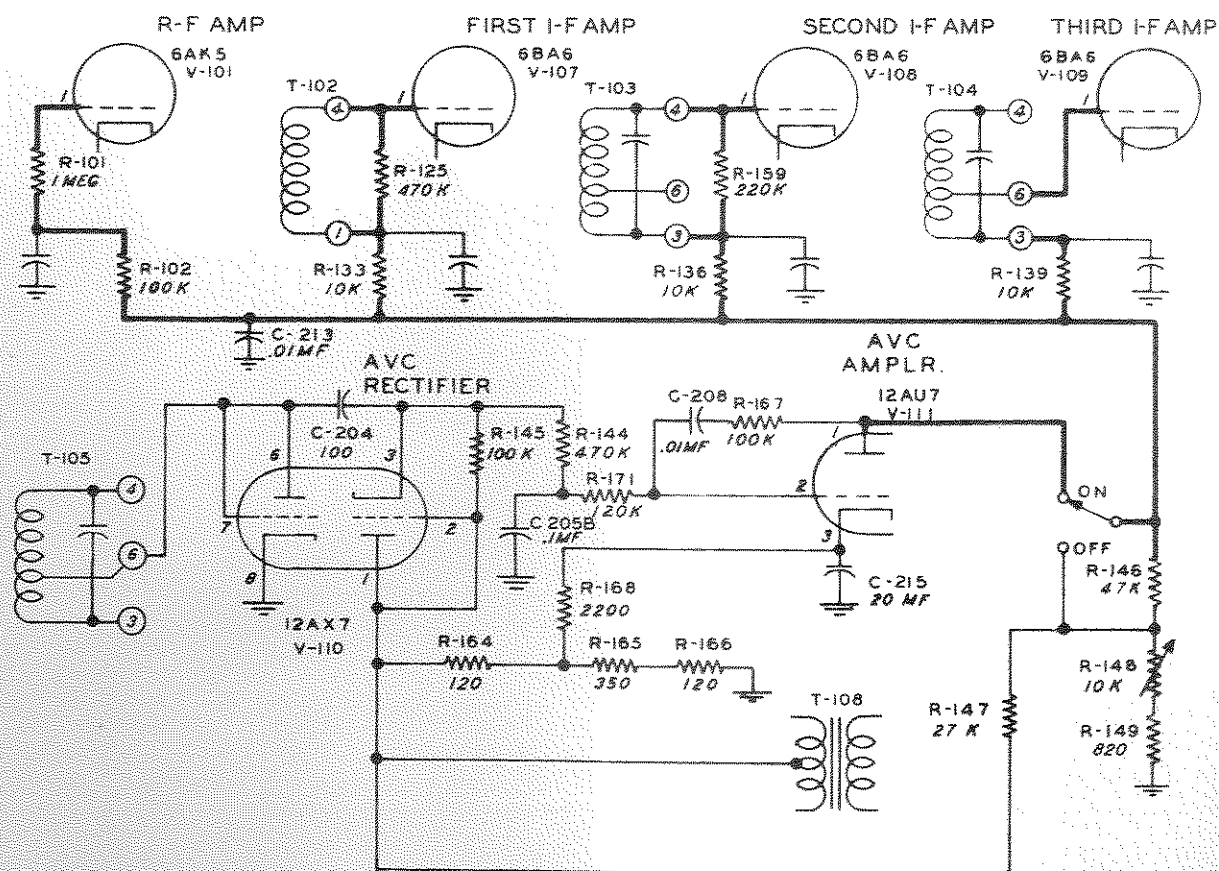

Figure 4-5. 51J-3 A. V. C. Circuit
4.2.11. AUTOMATIC VOLUME CONTROL. - The problem of blocking that is created by strong signals or heavy static is eliminated by use of an amplified AVC system and a low impedance AVC line. Refer to figure 4-5. The second triode section of V110 is used as an AVC rectifier to produce control voltage for the AVC amplifier which uses one half of dual triode V111. The AVC voltage that is applied to grids of the controlled tubes is produced when plate current flowing through one-half of AVC amplifier tube V111 causes a voltage drop across resistor R146. Plate voltage for the amplifier half of V111 is obtained from the voltage drop across resistors R164, R165 and R166, which are in series with the center tap of the power transformer to ground. However, V111 will not draw plate current when there is no signal input to the receiver because of approximately 11 volts of bias that is placed upon its grid by the voltage drop through R164. This bias voltage for V111 is taken from the end of R145 through which the rectified carrier flows in opposition to the bias voltage. Thus, when the rectified carrier becomes strong enough to overcome the bias voltage on V111, V111 will draw plate current and produce a voltage drop across R146, thereby producing AVC voltage in proportion to the strength of the received signal. The bias on the grid of V111 is high enough to produce a delay in the generation of AVC voltage and thus allows the receiver to function at full sensitivity on weak signals. Resistor R144 and capacitor C205B form the time constant